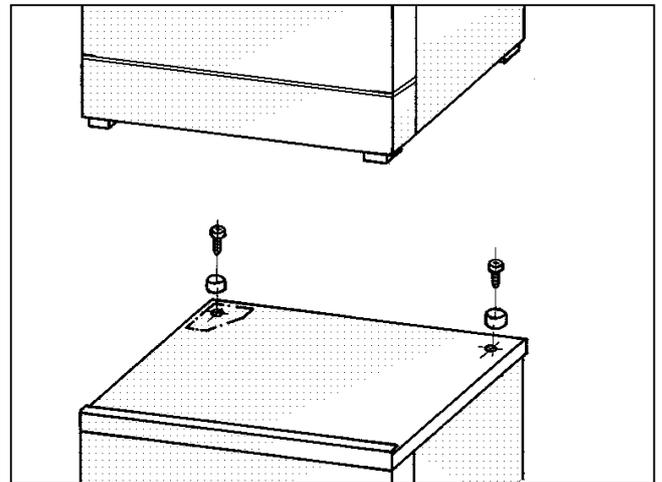

Fig. 8
4. Screw the foot alignments to the top of the lid with the screws and nuts supplied (Fig. 8).